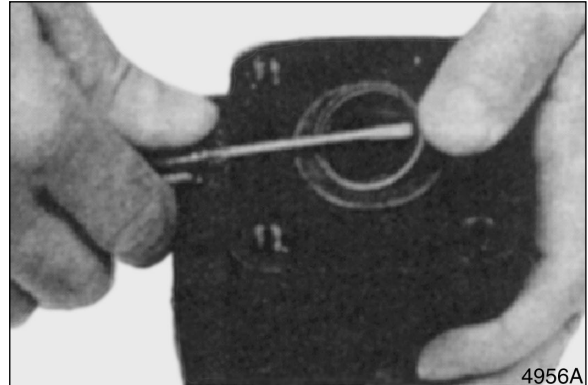

Figure 26
18. Remove dust seal from housing. See Figure 26. Remove O-ring and backup ring from inside housing.